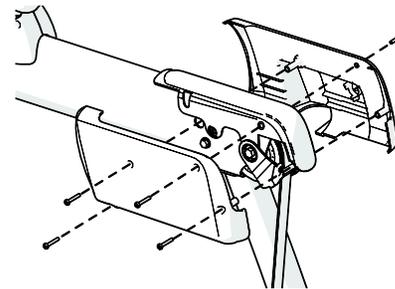

Figure 7
6. Fit the right-hand inner and outer side arm covers to the right side arm. Insert five screws **6**, then tighten them to 8 to 12 in-lb (1 to 1.35 N-m) using a #2 Phillips screwdriver (see Figure 7).